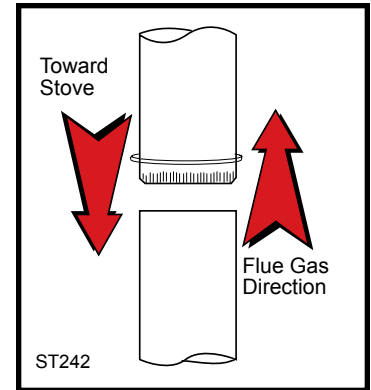
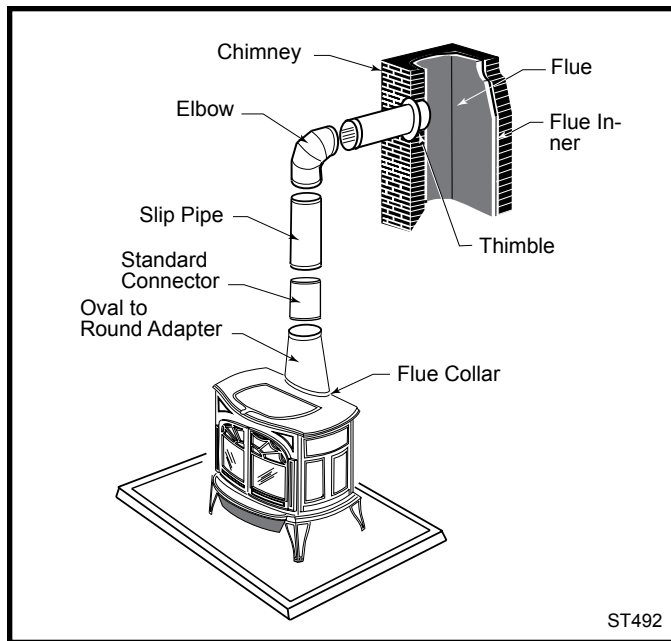

Fig. 5 Chimney connector.
Fig. 6 An exploded view of the chimney connection in a freestanding masonry installation.
- Begin assembly at the flue collar of the stove. Insert the first crimped end into the stove's flue collar, and keep each crimped end pointing toward the stove. (Fig. 5) Using the holes in the flue collar as guides, drill 1/8" (3 mm) holes in the bottom of the first section of chimney connector and secure it to the flue collar with three #10 x 1/2" sheet metal screws. Lift off the griddle, and shield the stove's surface between the griddle opening and the front of the flue collar to protect the finish when you drill the front hole.
- Fasten each joint between sections of chimney connector, including telescoping joints, with at least three (3) sheet metal screws. The pre-drilled holes in the top of each section of chimney connector serve as guides when you drill 1/8" (3 mm) holes in the bottom of the next section.
- Fasten the chimney connector to the chimney. Instructions for various installations follow. Figure 6 illustrates the general layout of chimney connector parts.